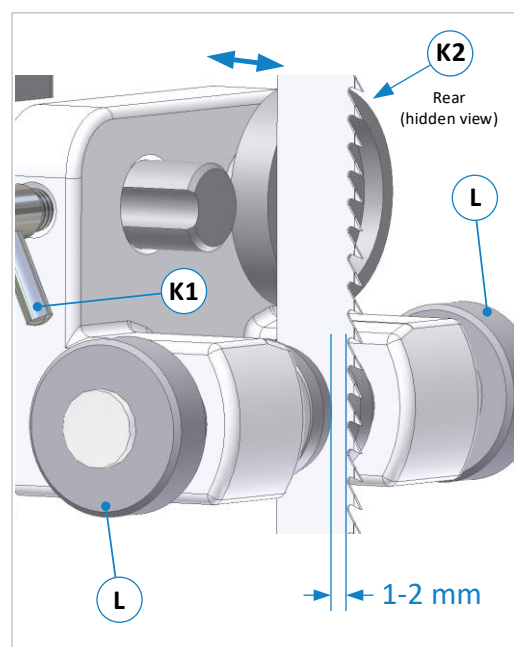

Figure 30: Adjusting the guides
- Loosen the tommy screw (**K1**) and adjust the complete guide on the support bolt (**B**) by moving it so that the front edges of the side rollers are approx. 1 - 2 mm behind the tooth base of the saw blade (see ⇒ Figure 30).